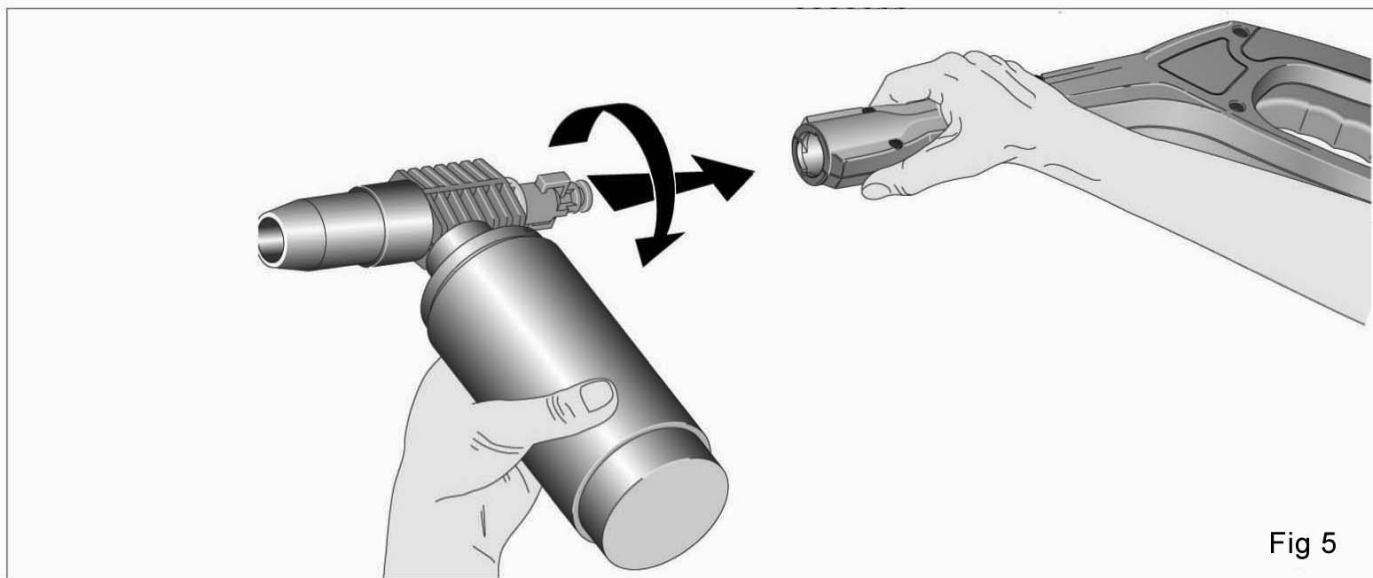

Fig 5
2. Install soap dispenser assembly. (Fig 5)
2. Installez le dispensateur de savon. (Fig. 5)